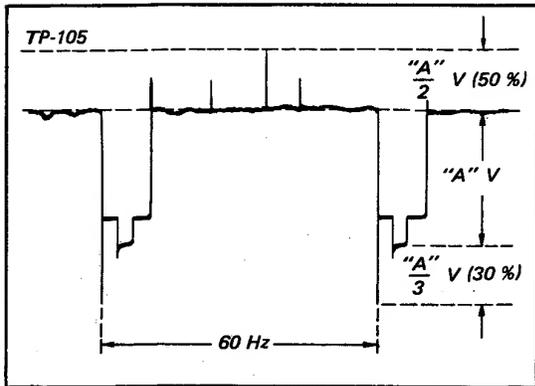

Fig. 5-1b. White clip and dark clip levels
- “12. Adjust R155 so that the negative spike in the vertical blanking pulse falls 30% below sync tip amplitude. See Fig. 5-1b.”